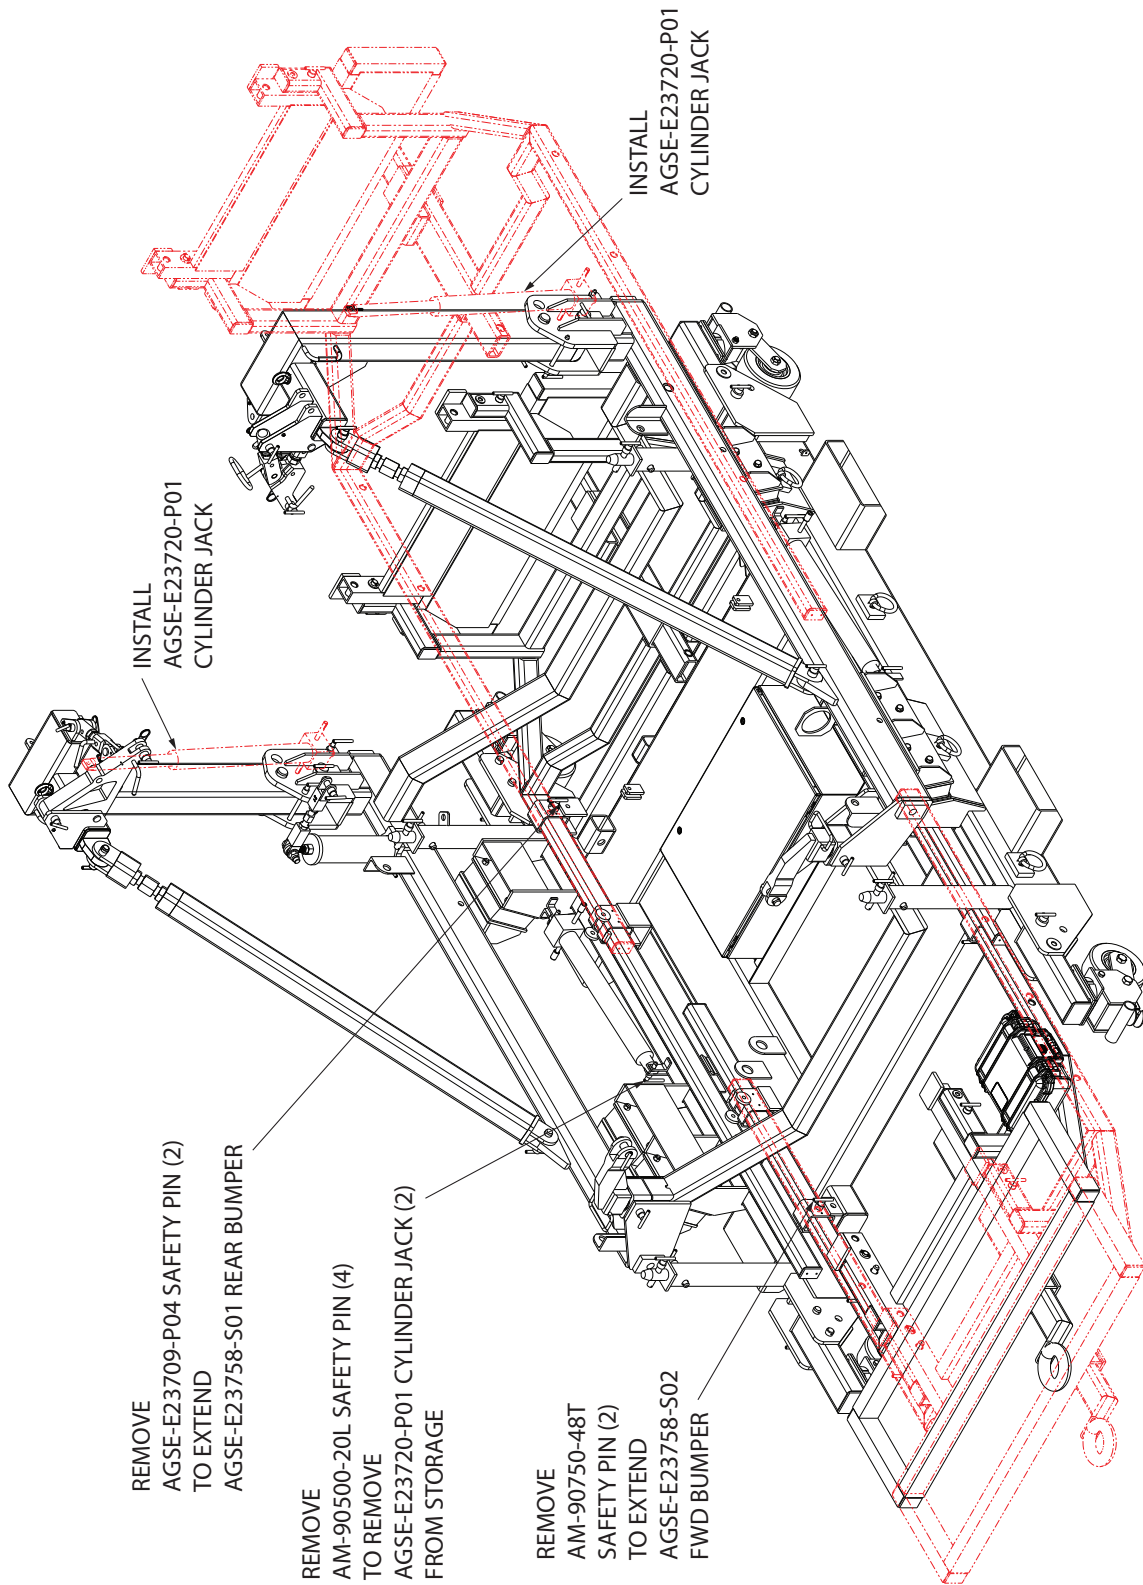

Figure 5.1-5
- 10) Remove AGSE-E23720-P01 cylinder jack from storage by removing four (4) AM-90500-20L safety pins. Determine which is the correct post, move AGSE-E23719-P01 cylinder mount to that post and attach with AM-90500-72T safety pin. Attach the cylinder jack to the cylinder mount and post using the removed hardware. (Illustration Figure 5.1-5).
- 11) Remove two (2) AM-90750-48T safety pins to extend the AGSE-E23758-S02 FWD bumper assembly and two (2) AGSE-E23709-P04 safety pins to extend the AGSE-E23758-S01 rear bumper assembly from their storage positions. Extend the bumpers as needed for engine configuration. Secure with the same hardware.